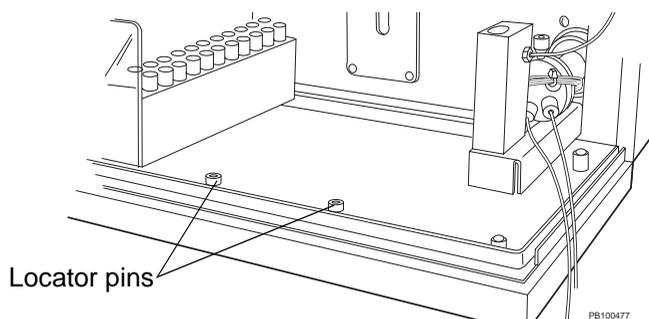

Figure 3-2 Installing Racks in AFC 2000
2. Insert the racks so the holes on the underside of the rack fit over the locator pins on the bottom surface of the AFC 2000 (Figure 3-2).